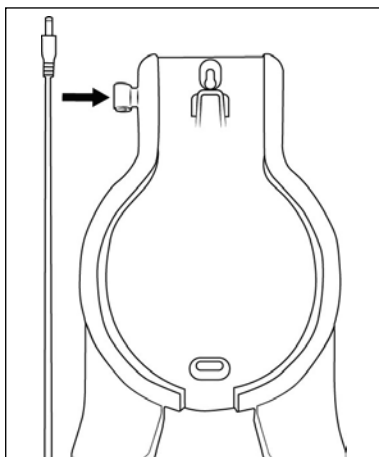

Fig. 5
- 6) Insert the barrel plug 13 of the mains adapter 12 into the wall bracket 15 (see Fig. 5).